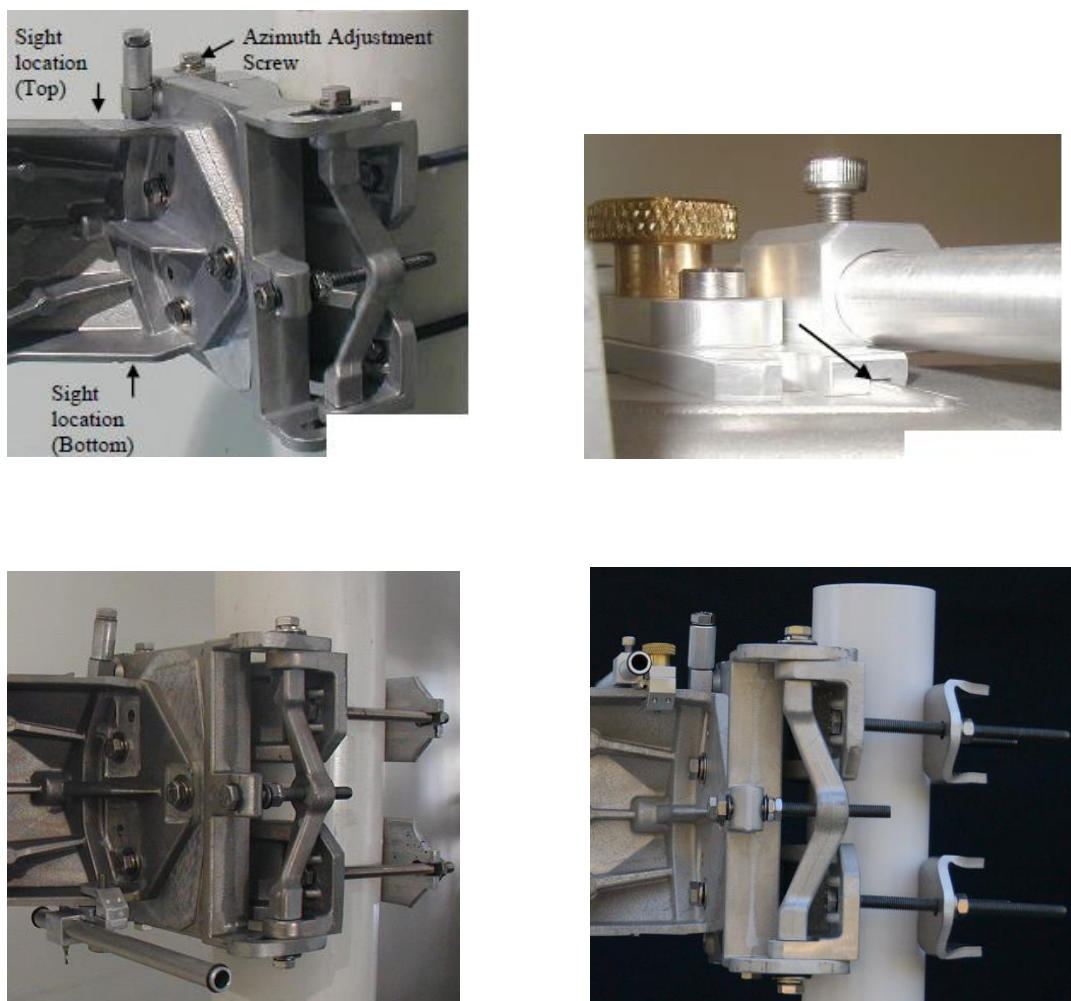

Figure 5-11: Attach Alignment Sight Tool to external 1 foot antenna
1. Determine the location to install the Alignment Sight Tool. The Alignment Sight Tool can be positioned on the top or bottom of the antenna mount (see Fig. 5-11, upper left). It is best to attach sight beside the azimuth adjustment screw to ensure adequate room for use of wrenches during alignment procedure. Note that antenna mount can be used in different orientations; therefore the azimuth adjustment screw may be on the top or bottom.
2. Slide sight onto the mount. It is very important to make sure that the ridge on the mount is engaged with the groove on the underside of the sight clamp. If the clamp does not fit as shown Fig. 5-11 (upper right), see Sight Setup instructions further.